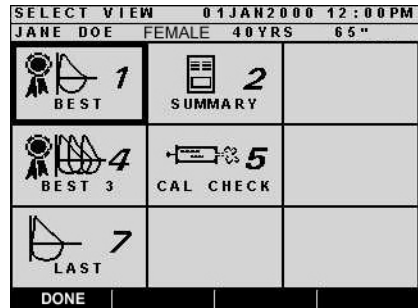

Figure 28: Select View screen
2. The “*SELECT VIEW*” screen appears, indicating the view options as shown in Figure 28. See Table 3 for the definitions of each option.